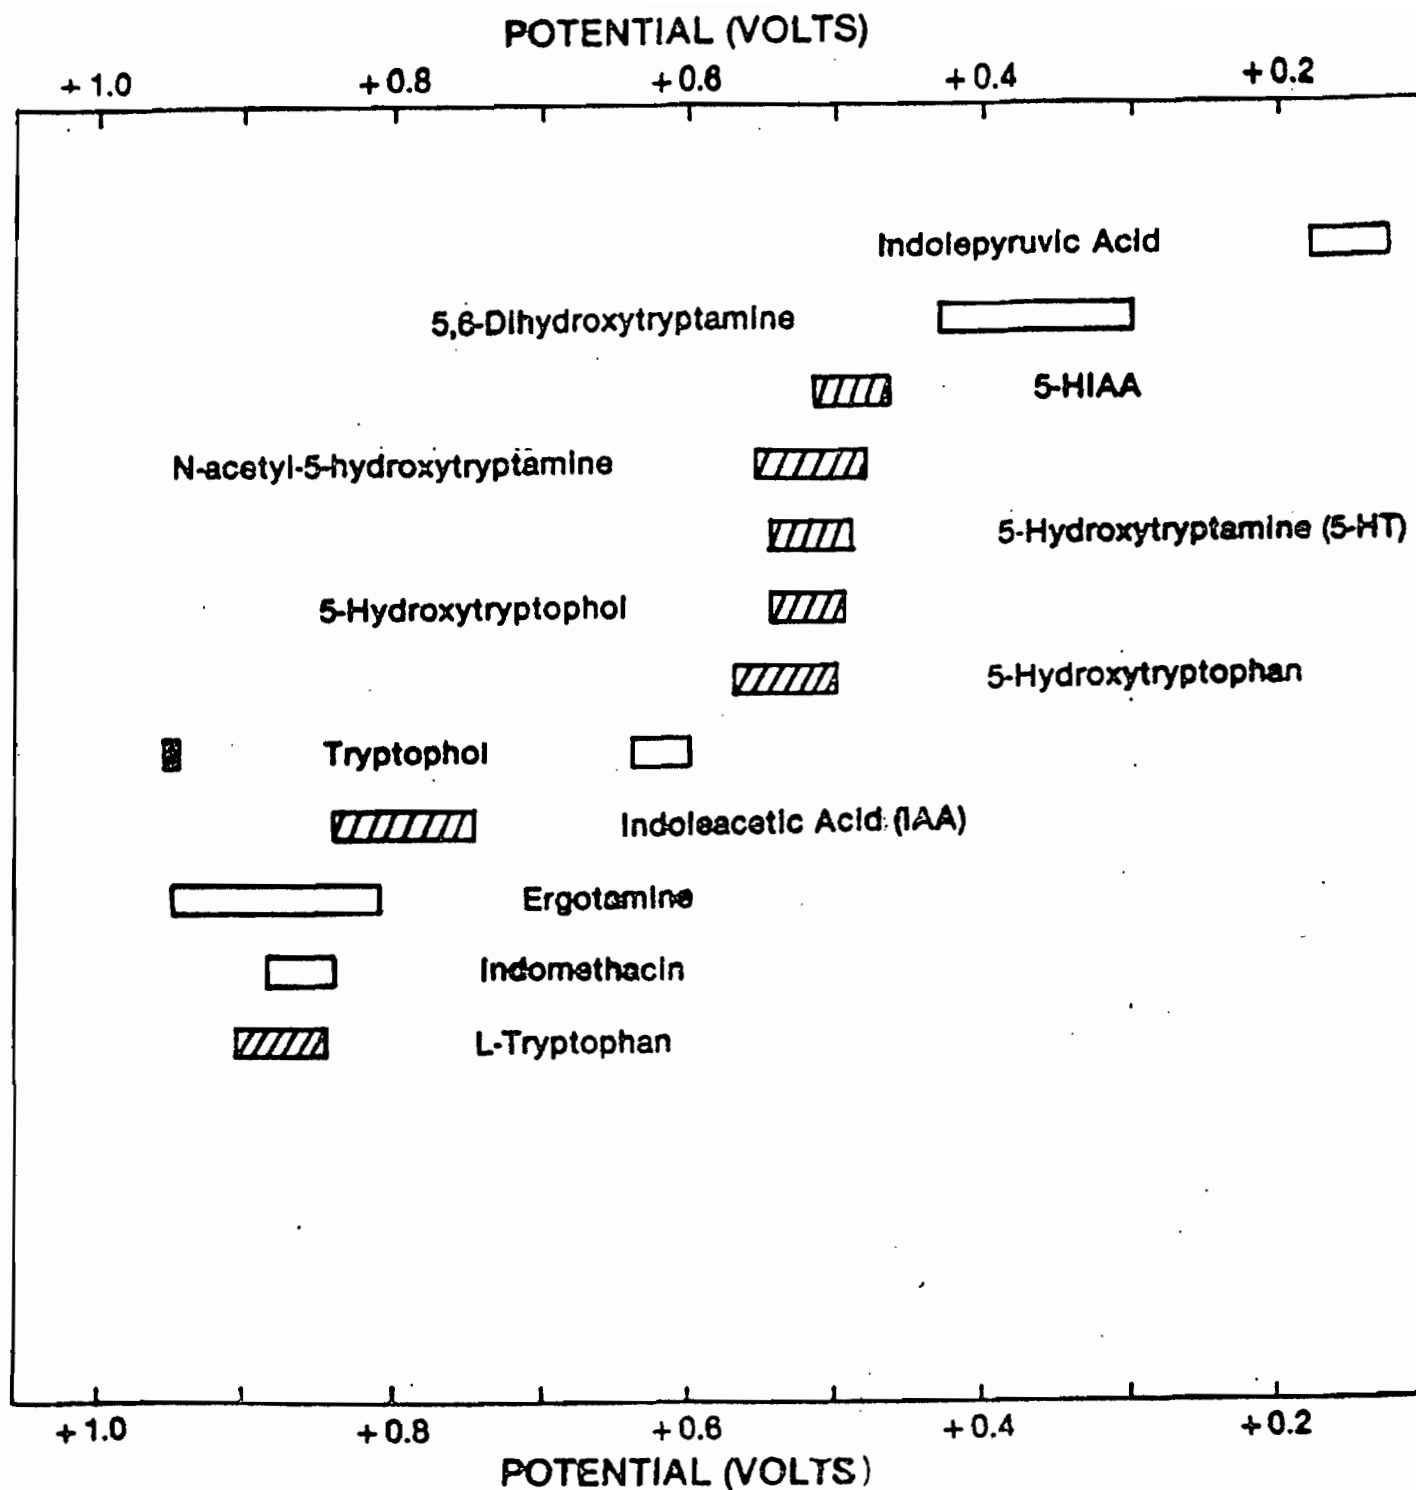

Figure 6 Oxidative Cyclic Voltammetric Data for Some Indole Metabolites of Tryptophan and Related Compounds.
- Figure 6 Oxidative Cyclic Voltammetric Data for Some Indole Metabolites of Tryptophan and Related Compounds.